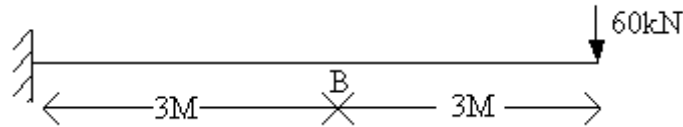

Figure 2:
5. Solve the beam shown in Figure 2 using Castiglino's theorem to obtain slope and deflection at point B. Take  $E = 2 \times 10^5 \text{ N/mm}^2$ ,  $I = 60 \times 10^6 \text{ mm}^4$ . [16]